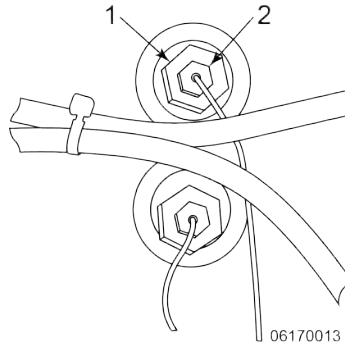

Figure 2-4 Screw Nut Assembly
- 11) Remove the small inside screw nut (2) which holds the capillary line, see Figure 2-4 Screw Nut Assembly, page 24.